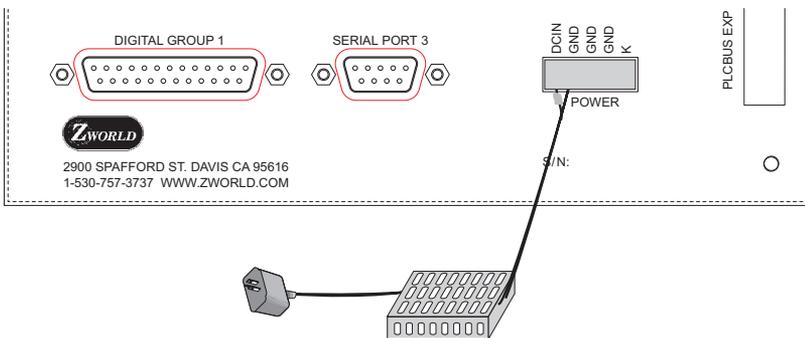

Figure 2-2. PK2600 Power Supply Connections
3. Plug the connector back into the power connection at the back of the PK2600. Watch the polarity of the connection so that the banded wire from the power supply goes to DCIN as shown in Figure 2-2.